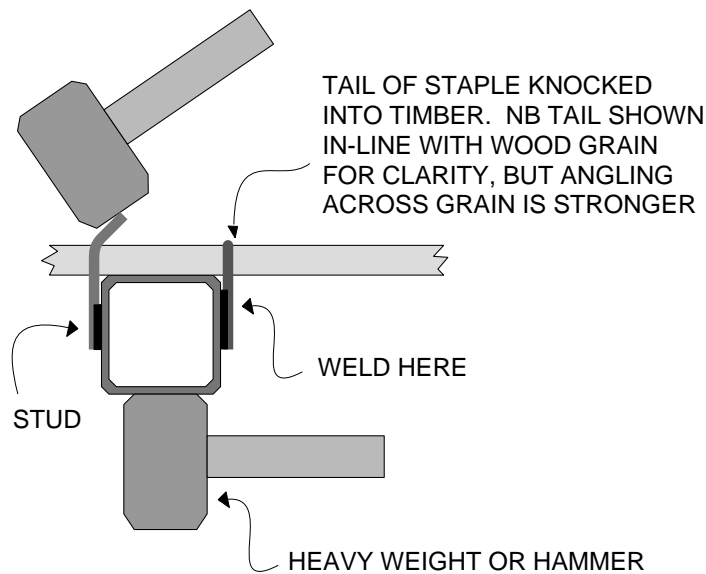

Figure 5: tightening welded stud.
- 4) Next you can fit the side and the bottom planks to the frames with studs. Studs are just short lengths of round bar welded to the sides of the box section as shown in Figure 5 (which also shows how these studs can be tightened with a hammer and a weight or another hammer).